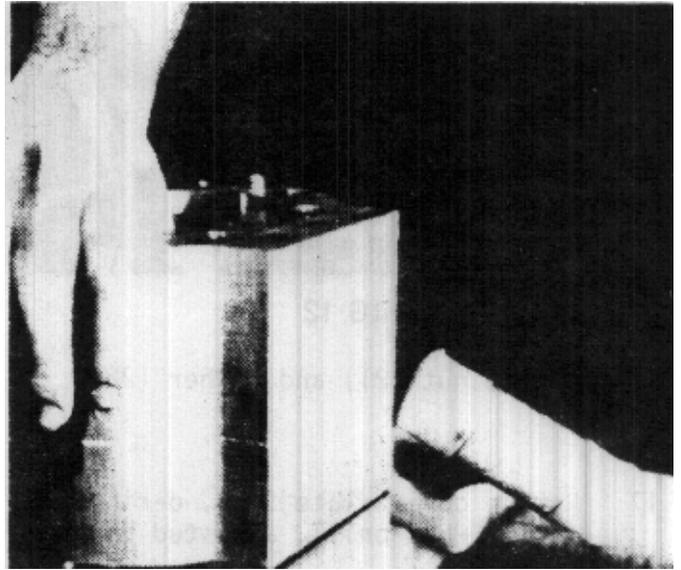

FIGURE 83
12. Remove isolation plate (11), sealing strip (17), end separators (15) center separator (16), back-up ring (14), and o-ring (35). (No isolation plates nor separators in SPM25.)
13. Remove the body (2) by lightly tapping the sides with a wooden mallet or plastic hammer, while lifting it with the other hand. Remove o-ring (34). (Fig. 83)